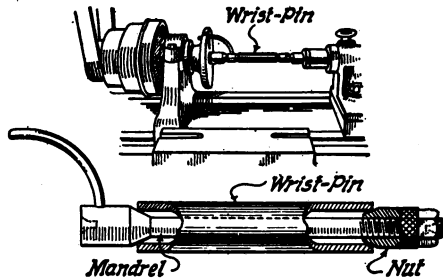

Fig. 48. Tapered Mandrel for Holding Hollow Piston Pin for Lathe Work
**Mandrel for Turning Pins.** Because of its being hollow in many cases, the wrist pin is difficult to handle when any work must be done upon it. For this purpose, a mandrel is needed. The method of constructing and using this is shown in Fig. 48. This consists of a shaft with a taper at one end and thread at the other, for a tapered nut. The wrist pin is slipped on the outer end, the taper nut put in place against it, and the backing nut put on behind that. Then these are screwed up until the two tapers hold the pin firmly, after which it may be placed in the lathe and work done upon it.